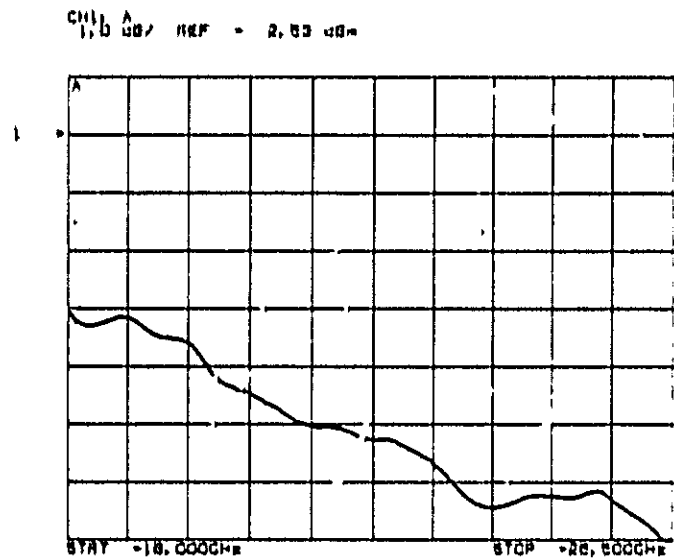

Figure 5-36f. Trace Before Adjustments
- c. Adjust [REF POSN] to center the reference line (see Figure 5-36f).